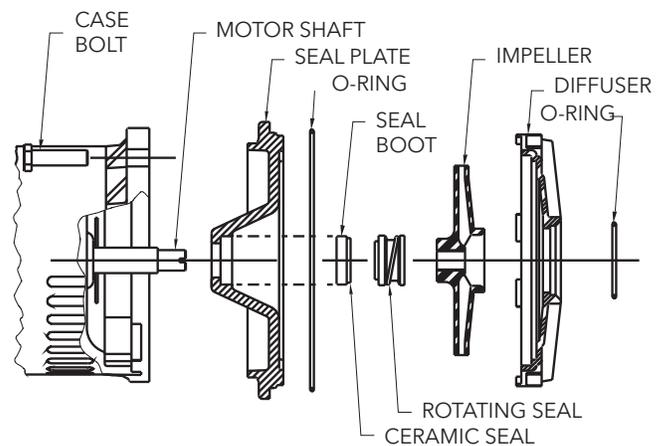

Figure 3: Seal assembly.
9. Slide rotating part of seal assembly from shaft (as shown in Figure 3. Separate seal plate from motor.
3. Insert rubber seal boot and ceramic seal (polished side exposed) into seal plate. Make a cardboard washer to cover the ceramic seal surface to be used while pressing seal into position. Cardboard washer is used to avoid scratching ceramic surface. Discard cardboard washer after ceramic seal installation (see Figure 3).